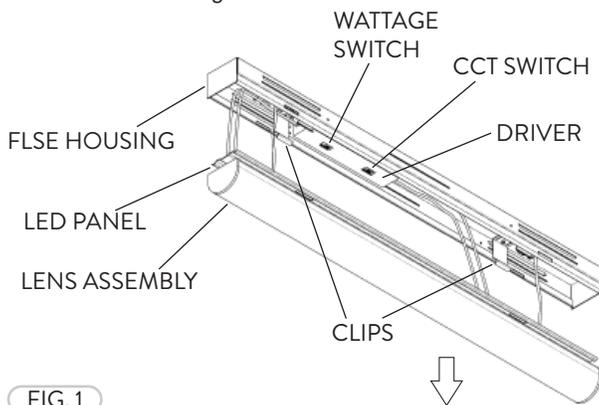
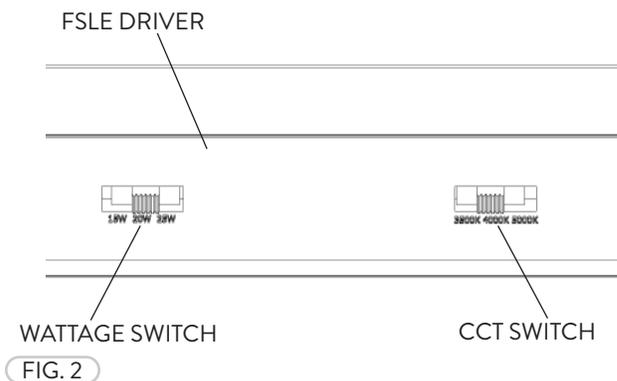
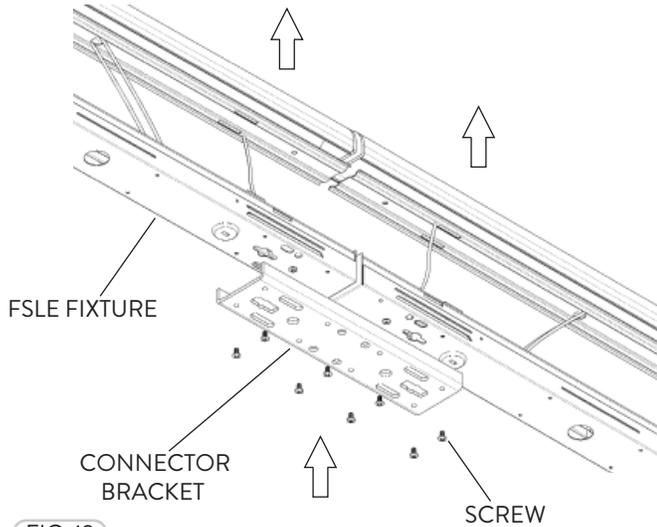

FIG. 1
FIG. 2
FIG. 12
The CCT Switch and the Wattage Switch are located on the Driver inside the FSLE fixture. Pull the Lens Assembly apart from the Housing at one side, then the other. Squeeze the Clips to remove the LED Panel (Fig. 1). The Adjustable CCT Switch allows the user to choose a desired color temperature 3500K, 4000K, 5000K for all the FSLE Models (Fig. 2). The Adjustable Wattage Switch allows the user to choose a desired output wattage for each FSLE Model fixture (Fig. 2).
- 2 Remove the Lens Assembly (Refer to Fig. 1) from the Housing. Attach the Power Cable to the FSLE fixture wiring. Refer to the Wiring Diagram. Install the FSLE fixture flush to the ceiling with the Anchors, Screws, and Washers (Fig. 5).
- 1 The Connecting Bracket/Plate Kit can convert two FSLE Linear Strip Lights into one fixture to reduce the cost of an oversized fixture. The kit includes the Connector Bracket/Plate and screws. Remove the Lens Assembly (Refer to Fig.1.) of both FSLE fixtures (Fig. 12).